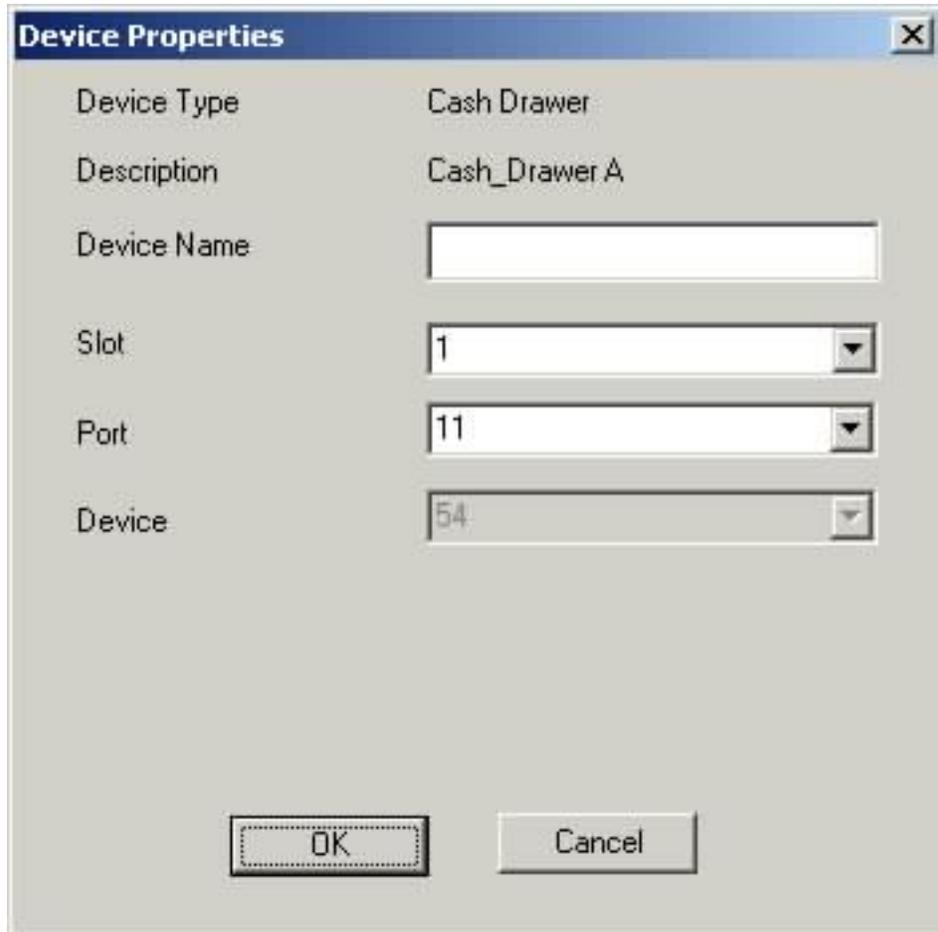
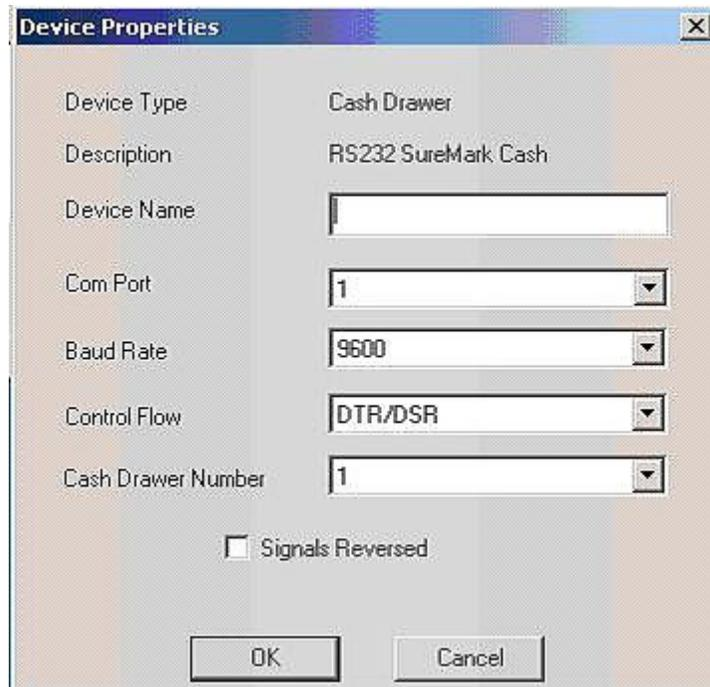

Figure 4. Device properties dialog (RS-485/USB)
Figure 5. Device properties dialog (EIA-232)
2. Click the **Configure** button to display the configuration dialog for the selected device. The dialog differs depending on the POS Terminal type and the device type. Figure 4 on page 24 shows the configuration dialog for an RS-485 or USB device; Figure 5 on page 25 shows the configuration dialog for an EIA-232 device.
4. For USB, RS-485, and System devices, select the correct slot and port for the device (see Figure 4 on page 24). Slot can have the following values:
For EIA-232, select the correct Com Port, Baud Rate, and Flow Control for the device (See Figure 5 on page 25).